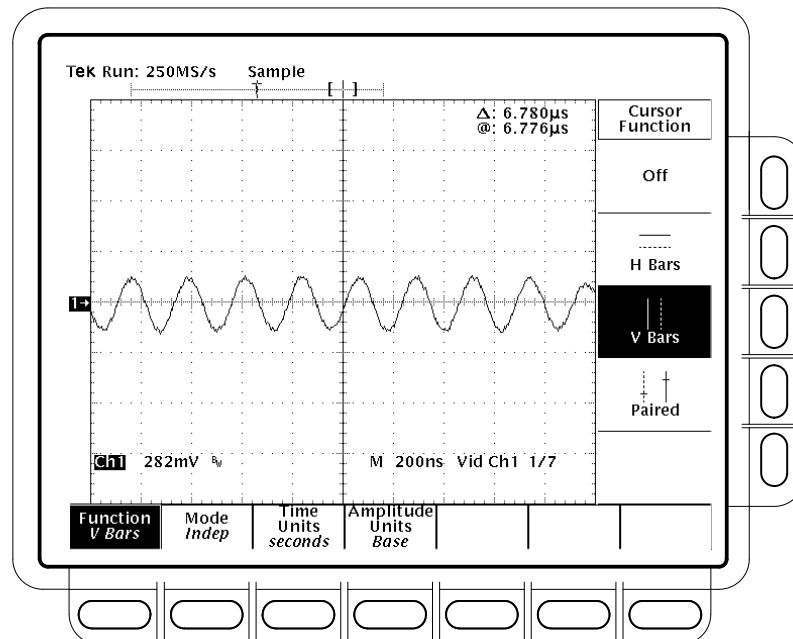

Figure 4-36: Line Count Accuracy Correct Result Waveform
- Verify that the cursor is positioned on a positive slope of the burst signal. See Figure 4-36.